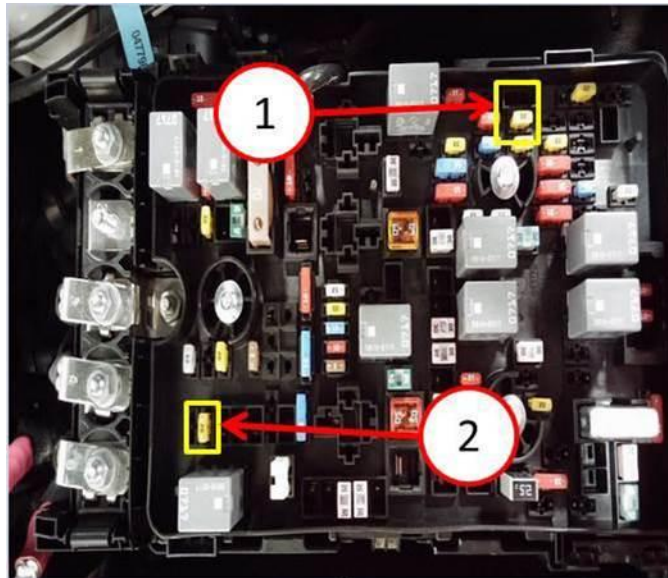

Fig. 1 Module Fuse Locations
- b. Pull fuse F76 (RDM 4WD, 20 amp) in the PDC (Power Distribution Center) (Fig. 1).
- b. Pull fuse F10 (PTU 4WD, 20 amp) in the PDC (Power Distribution Center) (Fig. 1).